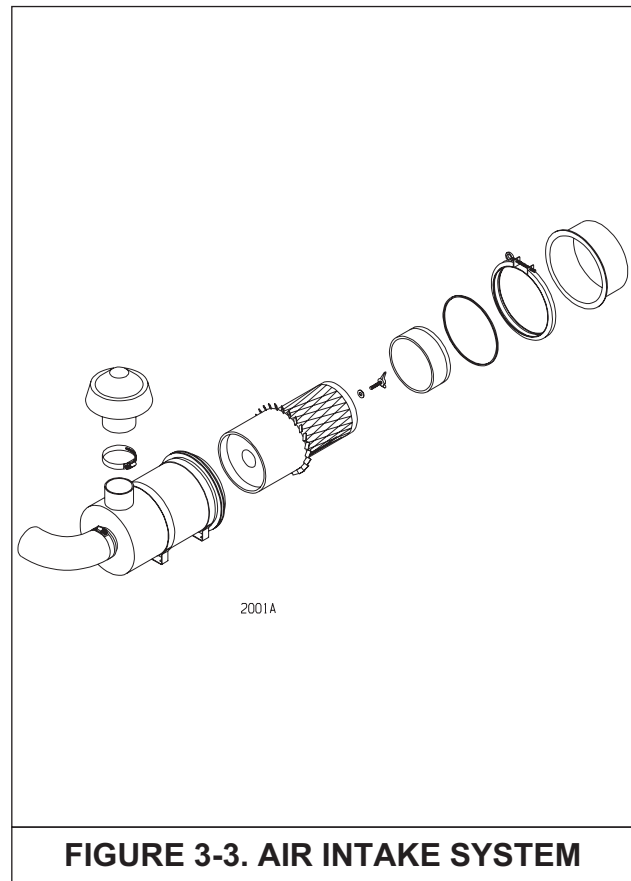

FIGURE 3-3. AIR INTAKE SYSTEM
5. Check the primary element for any damage, and replace if any is discovered. Typically this element can be cleaned and reused about six times, or up to one year of service. To clean the element, tap the sides to loosen dirt. Then apply compressed air from the inside, through the pleats in the element to force dirt out of the filter. The element can also be washed in a warm water and detergent solution. The element must be allowed to air dry before reinstalling. Do not dry with compressed air or damage will result. See Figure 3-3.